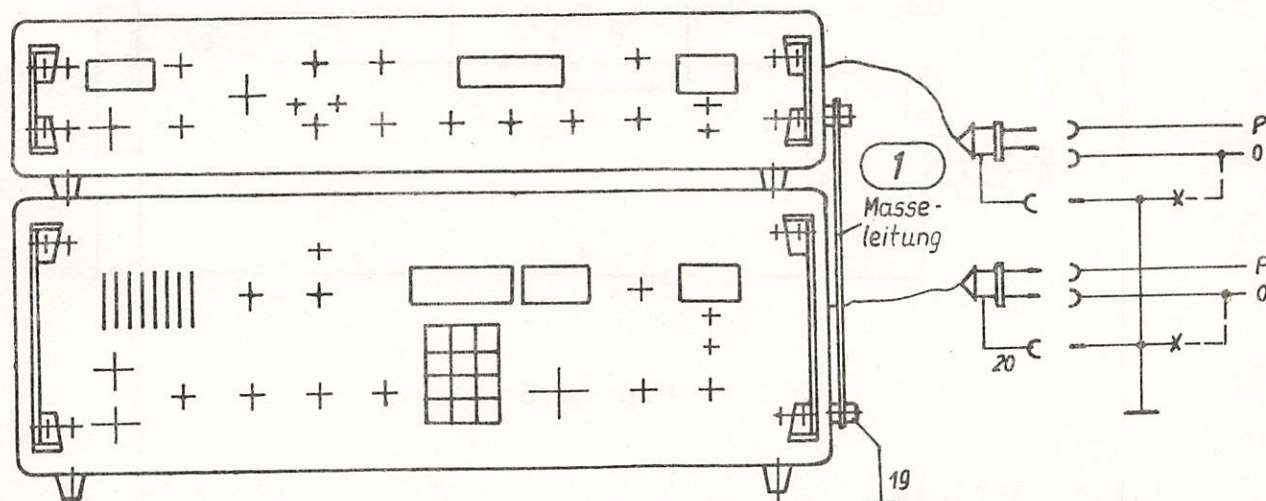

Figure 4
The earth bolt \perp (49) at the right side of the casing is to be connected via the RF low-impedance earth line 1399.036-02030 (cf. accessories) to the earth bolt of the basic unit (cf. Figure 4). From this position the earth connection is to be routed in accordance with the equipment documentation of the basic unit 1340.38-90001 Eu 02.
iary unit and a common earth line is to be connected (cf. Figure 4) instead of the zero conductor.